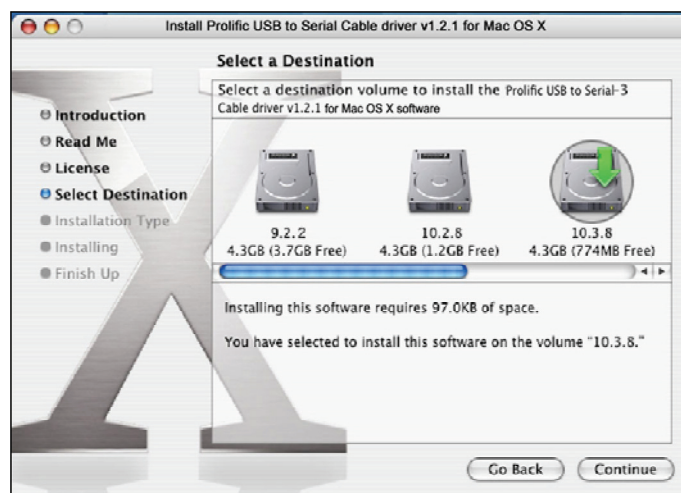

Figure 3-8. Select a Destination screen.
4. Select a destination disk to install the driver and click "Continue." See Figure 3-8.